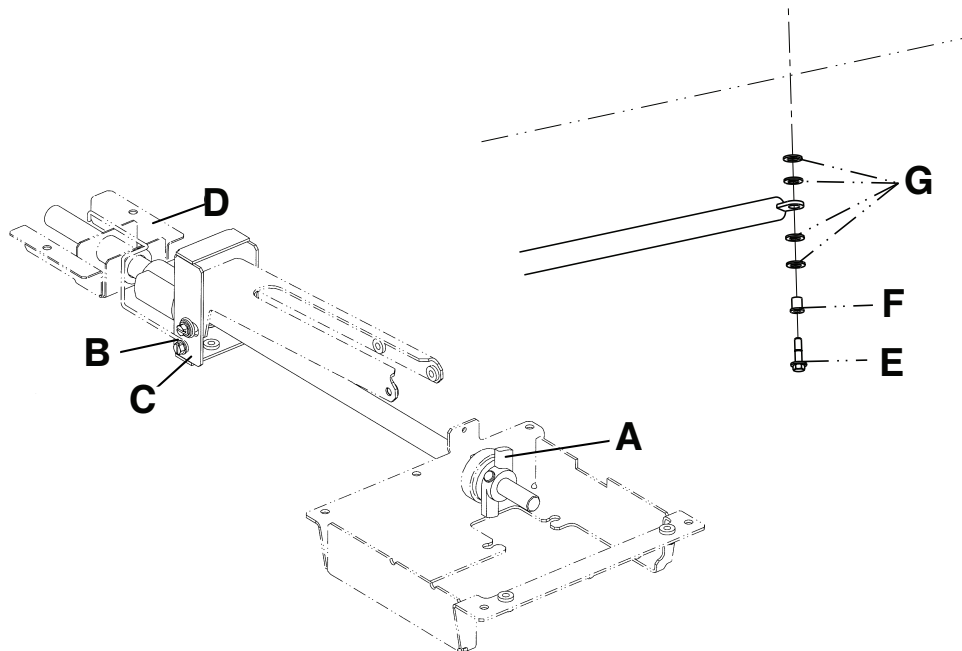

Figure 18 – Replacing the Fowler motor ball screw assembly
4. Using a 3/8" socket underneath the litter surface, remove the mounting standoff (E), flange bearing (F), and four washers (G) that secure the CPR dampener to the ball screw bracket and set aside (Figure 18).
8. Using needle nose pliers, remove the cotter pin that secures the clevis pin to the drive screw wing (A). Remove the clevis pin.
10. Using a 3/8" socket underneath the litter, remove the screw that secures the cam wire link (B) to the ball screw assembly.
11. Using a 3/8" socket, remove the two bolts that secure the ball screw support bracket (D) to the bottom of the litter. Remove the bracket.
12. Using large snap-ring pliers, remove the snap ring that secures the ball screw to the bracket (C).